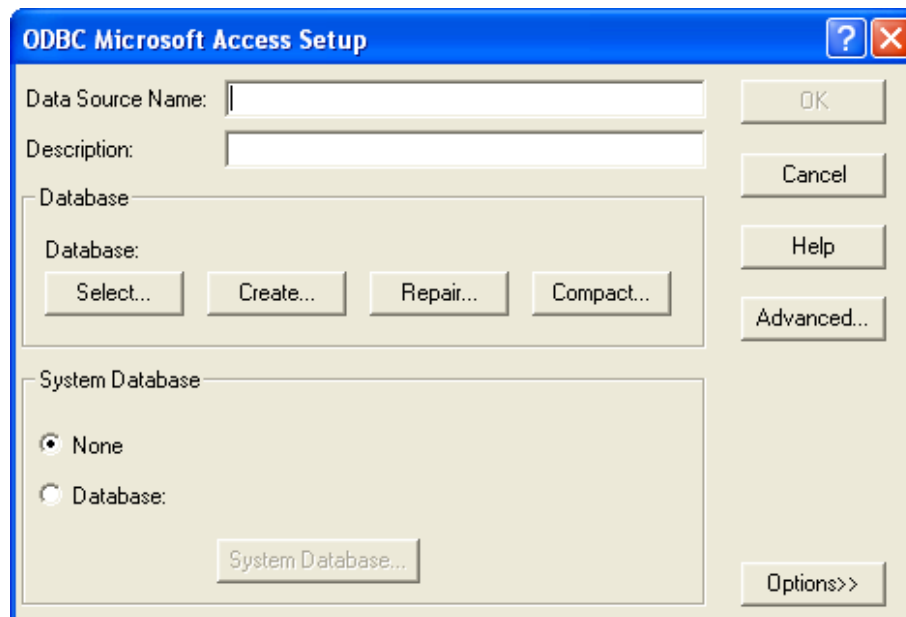

Figure 96 - ODBC Microsoft Access Setup Window
9. The **ODBC Microsoft Setup** window (Figure 96) appears.